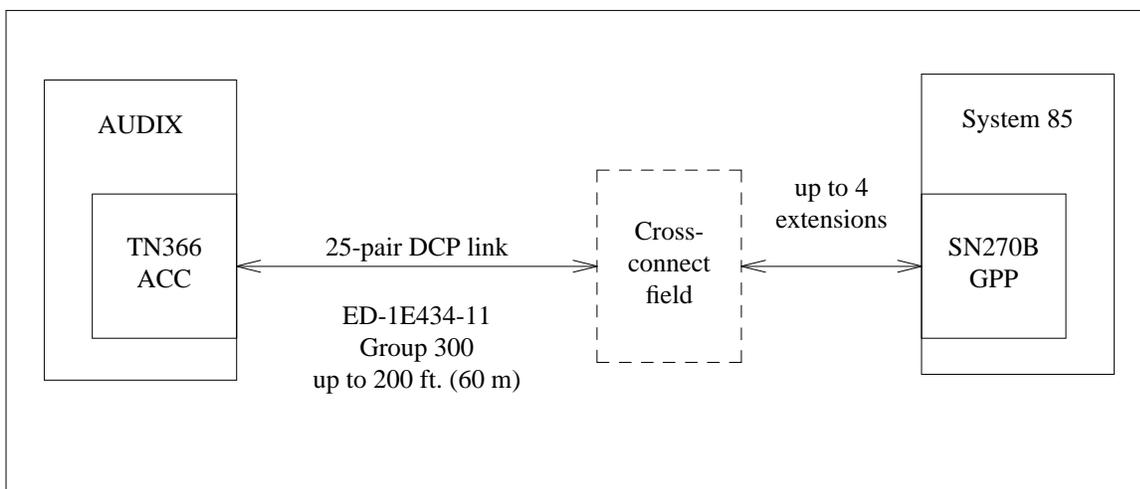

Figure 7: System 85 AUDIX Networking Link
- AUDIX Networking link (optional), connecting AUDIX to a maximum of 100 other AUDIX machines. Analog or digital facilities may be used between switches. See figure 7.
AUDIX Networking is an optional AUDIX R1V3 feature that allows AUDIX adjuncts (which may be different AUDIX models) to communicate with other AUDIX machines (which may be connected to different types of switches) using either analog or digital facilities on the switch. All AUDIX Networking machines require a TN366 AUDIX communications controller (ACC) circuit pack and a 25-pair ED-1E434-11 Group 300 cable to connect the ACC circuit pack to a digital port on the local (host) switch (see figure 7). Two physical Digital Communications Protocol (DCP) links (two transmit and receive pairs) are connected.